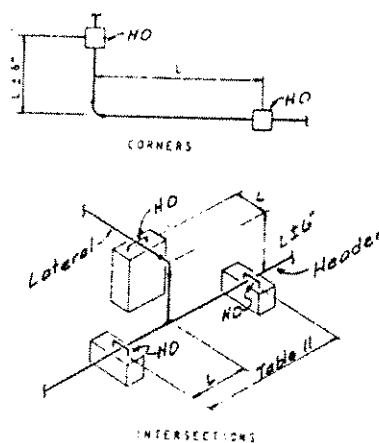

Figure 2-24. Maximum pipe spans at corners and intersections.
6. Hold downs at corners and intersections. To establish dimensional location of hold downs at corners and intersections, Read from Figure 2-24, Table 2-10. Example: @ (fn) or 140 cps